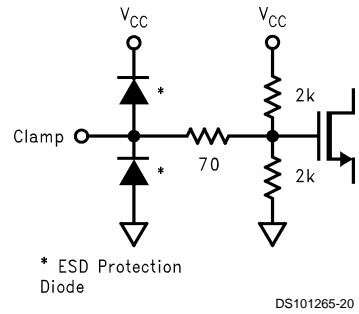

FIGURE 17. Pin 13 (Clamp)
**Pin 13—Clamp** A positive going clamp signal is input on this pin. Using this signal black level clamping of the video is carried out directly on the input video that is AC coupled into the high impedance preamplifier input, thus eliminating the need for additional black level clamp capacitors. *Figure 29* shows the external schematic of pin 13, *Figure 17* shows the internal schematic. An optional capacitor to ground may be needed if noise interferes with the clamp signal.